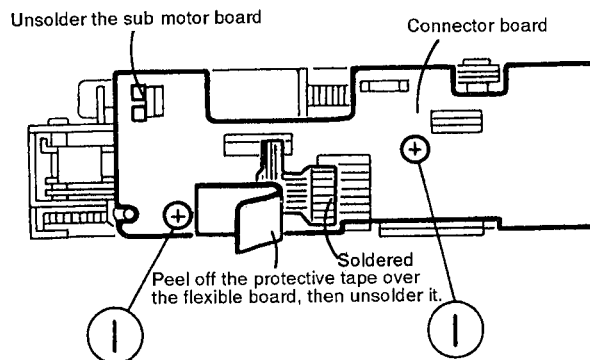

Fig. 4-6
■ Connector board (See Fig. 4-6)
- 3) Remove two screws ① securing the connector board, then remove it taking care not to break the flexible board.